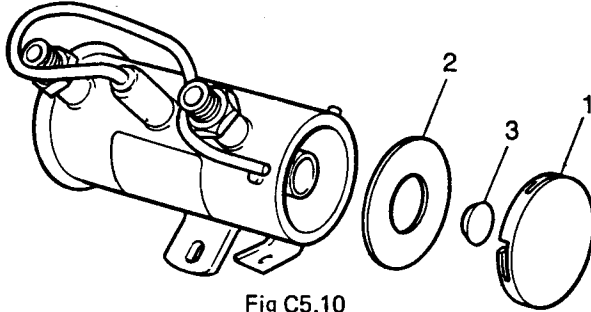

Fig C5.10
- (3) Refer to Fig C5.10. Release the end cover (1) from the bayonet fixing and lift out the rubber seal (2) and the magnet (3).